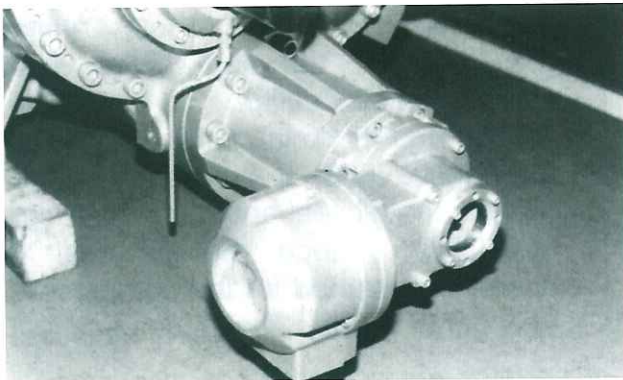

Fig. 31 Use of Indicator Mount (Low-stage side)
The indicator surface on the low-stage side unloader indicator is fitted with a 90° fitting (200) and faces the motor end of the unit to allow easy observation (Fig. 31).